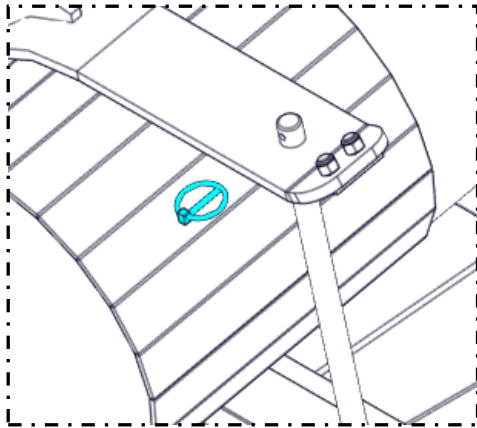

Figure 4.12
- A) Remove the top or bottom lynch pin on the auger rest holding the transfer auger to the mill trailer (Figure 4.12).